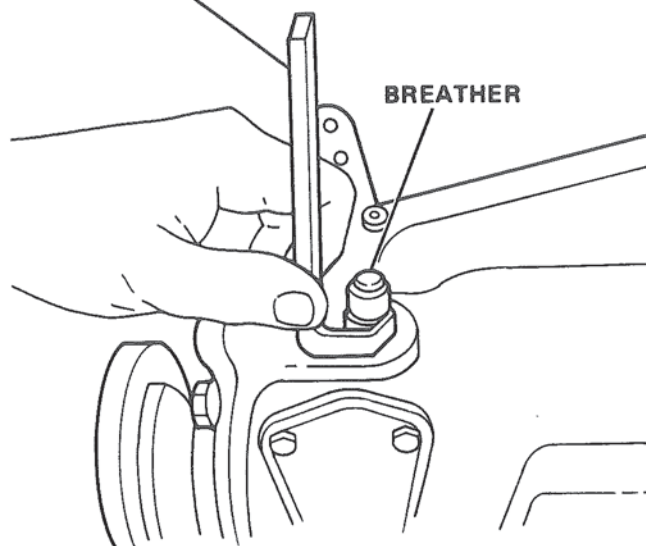
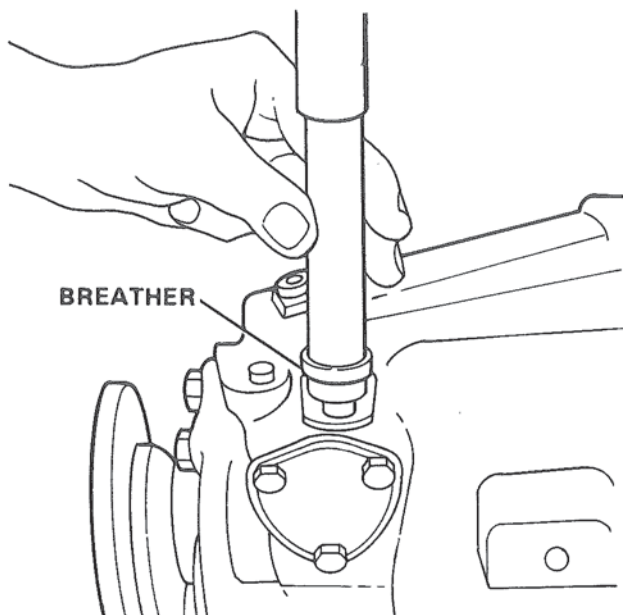
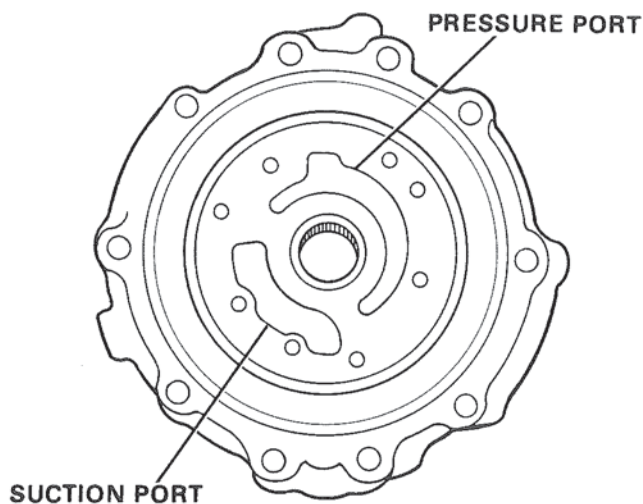

Figure 92. Installing Breather Assembly.
Figure 101. Breather Assembly.
Figure 102. Adapting Breather Assemblies.
1. Install the breather assembly. Figure 92. Do not hammer on the top of the breather assembly as this will damage the sealing element.
1. In addition to the breather assembly shown in Figure 92, other breather assemblies will be found in use as illustrated in Figure 101 and Figure 102. These illustrations demonstrate the manner in which the breather assemblies are installed.
2. The breather in Figure 102 is supplied for those installations where a pressure type breather replaces the breather shown in Figure 101. This breather is used with an internally threaded bushing which presses into the case before the installation of the threaded breather assembly.